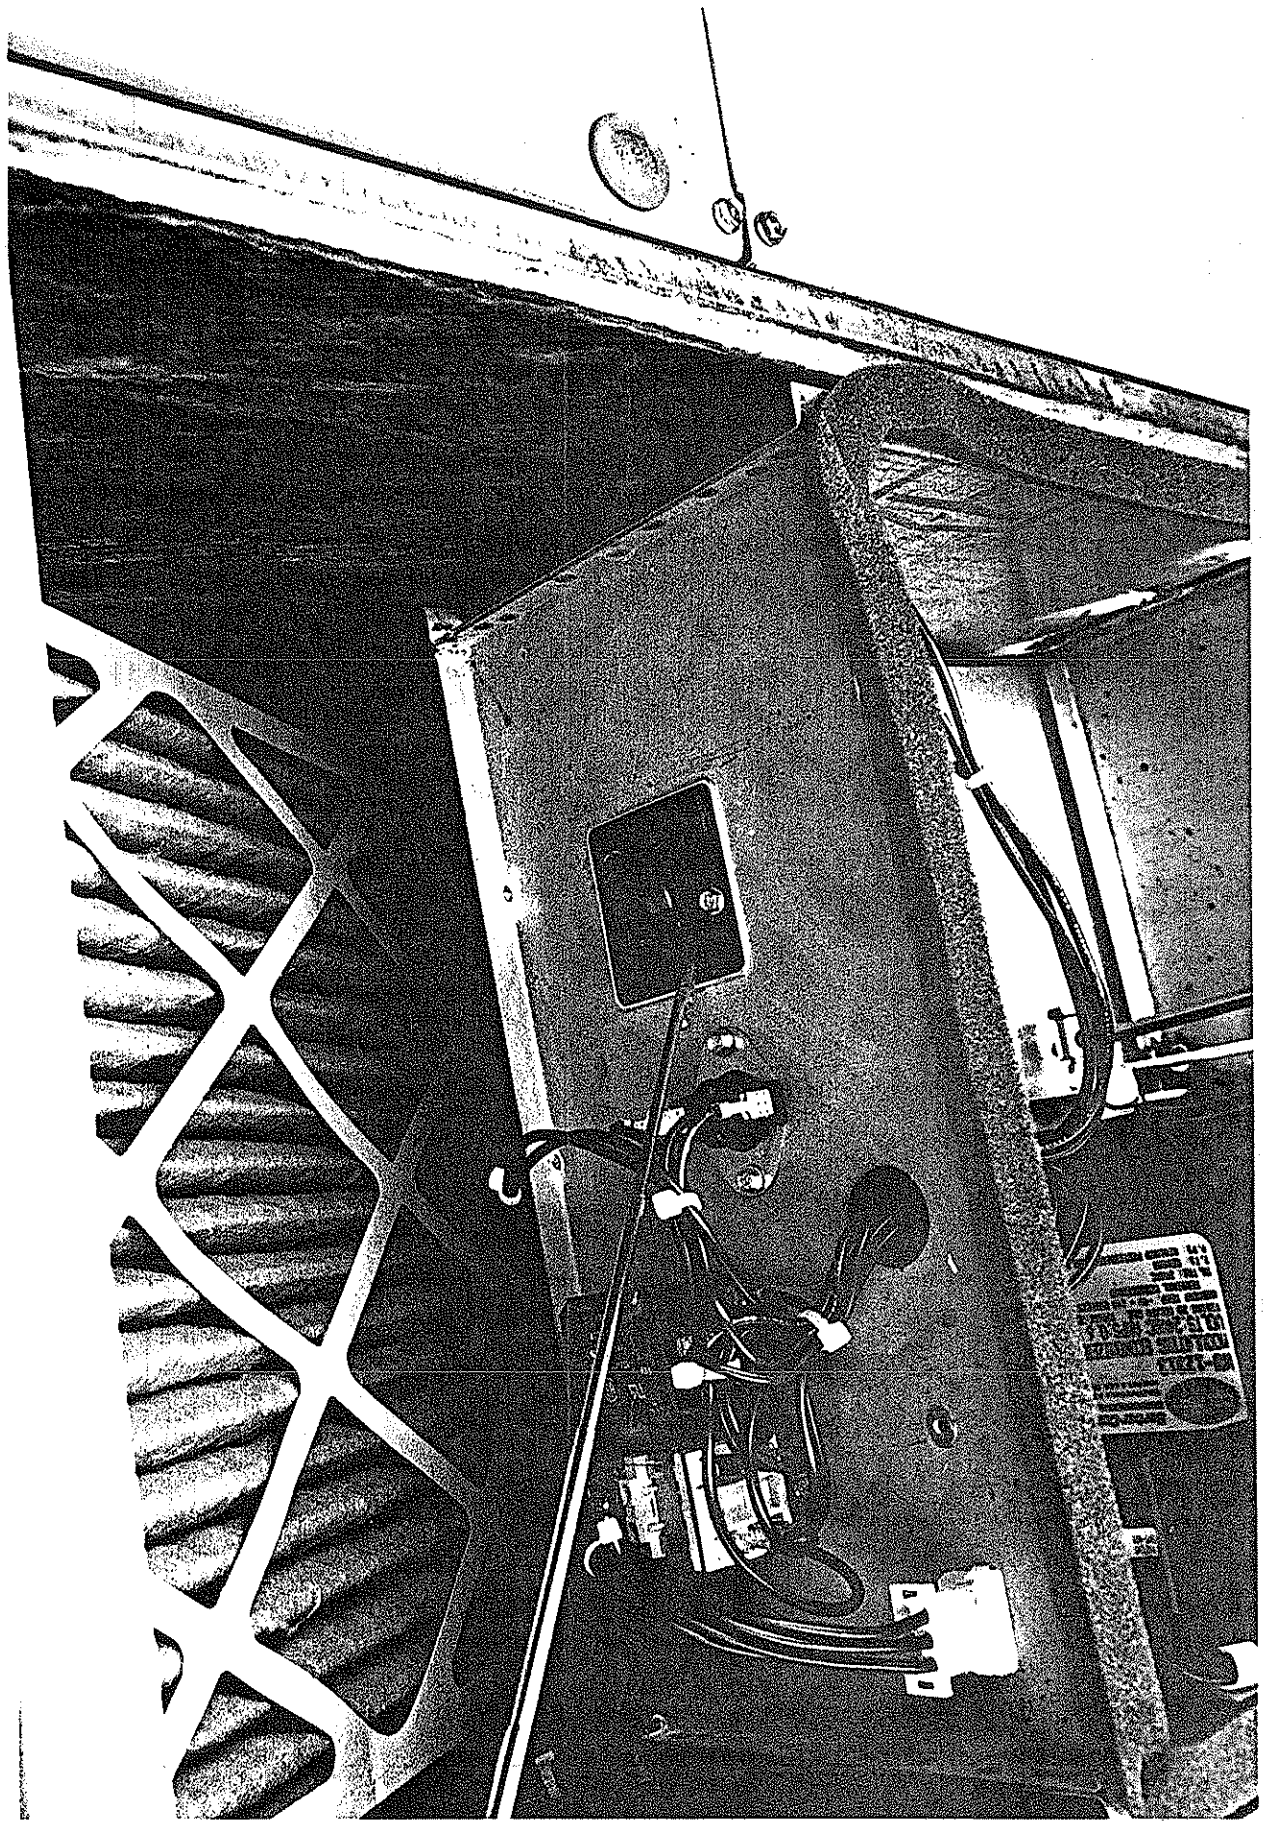

Figure 8
- f. Adjust the enthalpy control (Figure 8) to position A,B,C,D to achieve the maximum combination of temperature and humidity acceptable for the installation as per the chart in manufacturer's enclosed instructions. (The suggested setting is between A & B 70°DB @ 55 percent RH).